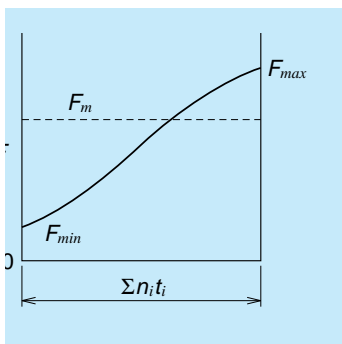

Fig. II-5-2 Simply varying load
2. When the rotational speed is constant, and the load changes linearly (Fig. II-5.2)